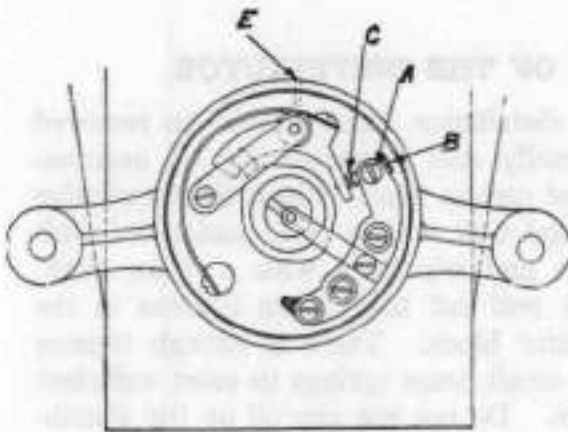

Figure 14
BREAKER MECHANISM (See Fig. 14)
(1) Loosen lock screw (A). See Fig. 14.
(2) Adjust platinum contact screw (B) until the gap is wide enough to permit the gauge in the magneto screw driver furnished with the tractor, to enter the gap at (C), Fig. 14.